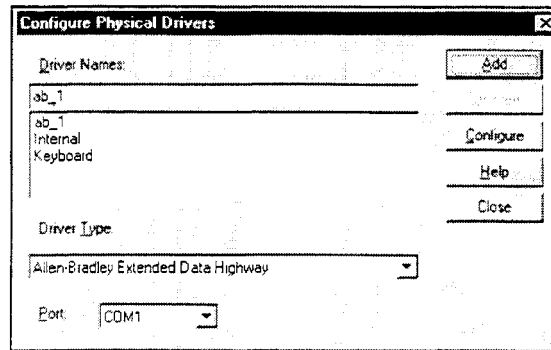

Figure 5. Configure Physical Drivers dialog box
2. Select the Drivers command on the Configure menu in the Application Navigator or the Drivers button on the Application toolbar. The Configure Physical Drivers dialog box opens, as shown in Figure 5.